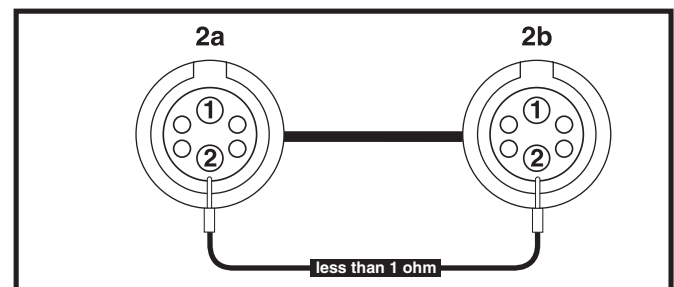

Figure 12. Connectors 2a and 2b
31. Measure resistance across pin 2 on connector 2a and pin 2 on connector 2b. **See figure 12.**
- *If both multimeter measurements are less than 1 ohm, then replace the joystick module (1) and retest the system.*
- *If either multimeter measurement indicates an open, then replace the redel cable (2) and retest the system.*